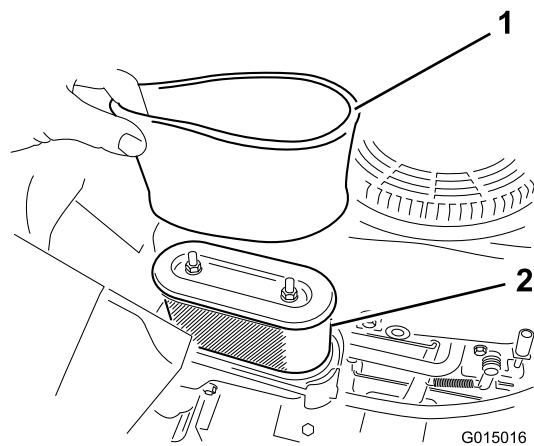

Figure 29
5. Carefully remove the foam and paper filter elements from the air cleaner housing (Figure 29).
1. Install the foam filter onto the paper filter (Figure 29).